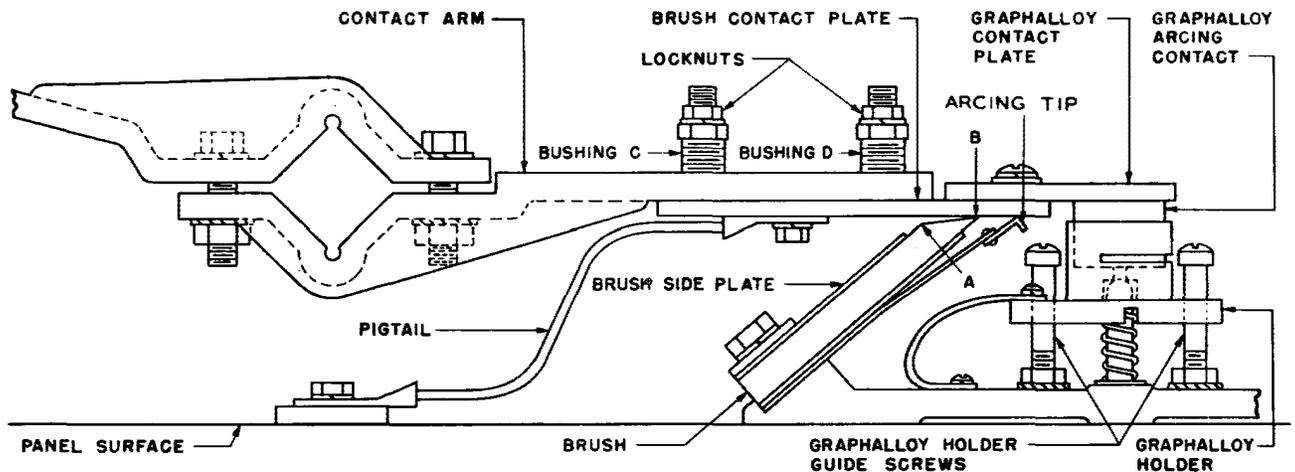

Fig. 6 – Contact Adjustment for Laminated-Type Contacts and Graphalloy
(1) If contacts do not make or break approximately at the same time, inspect the group for any that are out of alignment with the others. Correct by shaping the contact springs with the pliers or raising or lowering stationary contact assemblies, as required, to bring them into alignment with the others of the group. When the contacts are supported by heavy members which cannot be shaped with the pliers, check for mechanical trouble which may require the replacement of parts. Remove dirt or other obstructions from graphalloy arcing contacts of the type shown in Fig. 6 by wiping with a clean cloth or replace springs as required. The arcing tips (see Fig. 6) should be shaped with pliers or replaced when required.
(4) *Brush-Type Main Contact — See Fig. 6:*
On switches having laminated brush main contacts of the type shown in Fig. 6, first adjust the graphalloy arcing contacts, if any, in accordance with (a) and then adjust the laminated brush contact in accordance with (b), (c), (d), and (e). On multipole switches do each step on all like contacts before proceeding to next step.